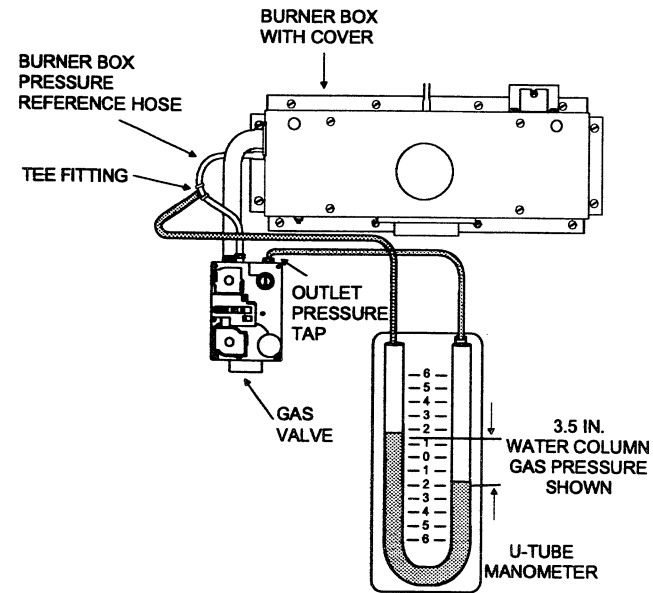

FIGURE 23 - READING GAS PRESSURE WITH BURNER BOX COVER IN PLACE
- a. Reading the gas pressure with the burner box cover in place - Disconnect the pressure reference hose from the right side of the burner box. Using a tee fitting and a short piece of hose, connect the negative side of the manometer to the burner box pressure reference port as shown in Figure 23. Connect the positive side of the manometer to the adapter previously installed in the gas valve as shown in Figure 23.